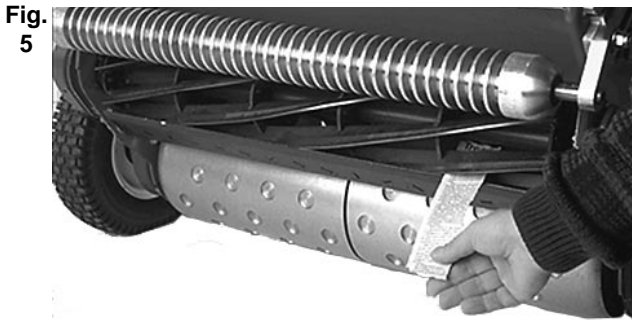

Fig. 4
7. Loosen the four roller bearing screws and the screw securing the idler pulley. Raise or lower the right side of the roller assembly until the gap is reduced to less than .025 cm. Tighten the roller-bearing screws. Adjust belt tension and tighten idler pulley mounting screw (Fig. 4).
1. Position the machine on a flat, level work surface. Make sure the reel contact is removed by loosening jam nuts on the bedknife adjusting screws and rotating the adjusting screws counterclockwise (Fig. 4).
3. On one end of the front side of the reel, insert a long strip of newspaper between the reel and the bedknife (Fig. 5). While slowly rotating the reel forward, tighten the bedknife adjusting screw (on same end of the reel), one flat at a time, until the paper is pinched lightly when inserted from the front, parallel to the bedknife, which results in a slight drag when the paper is pulled (Fig. 4).